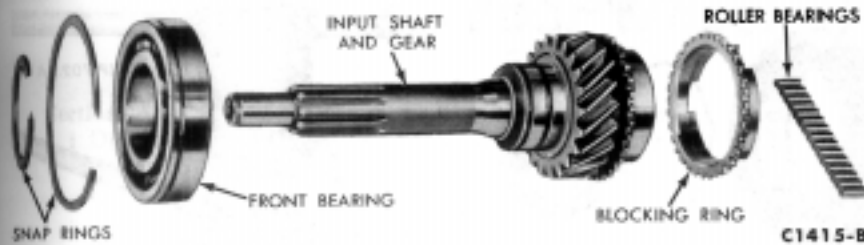
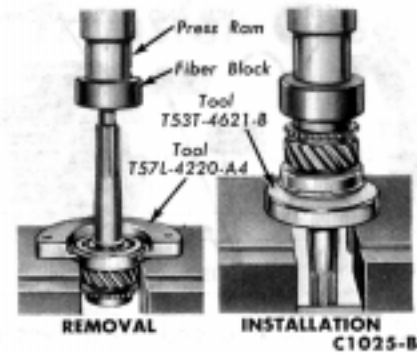

FIG. 18—Input Shaft Gear Disassembled
FIG. 19—Replacing Input Shaft Bearing
1. Remove the snap ring securing the input shaft bearing (Fig. 18), and press the input shaft out of the bearing (Fig. 19).
2. Press the input shaft bearing onto the input shaft with the tool shown in Fig. 19 and install the snap ring on the shaft.
9. Coat the bore of the input shaft and gear with a thin film of grease. A thick film of grease will plug the lubrication holes and prevent lubrication to the bearings. Install the 15 bearings (Fig. 18) in the bore.